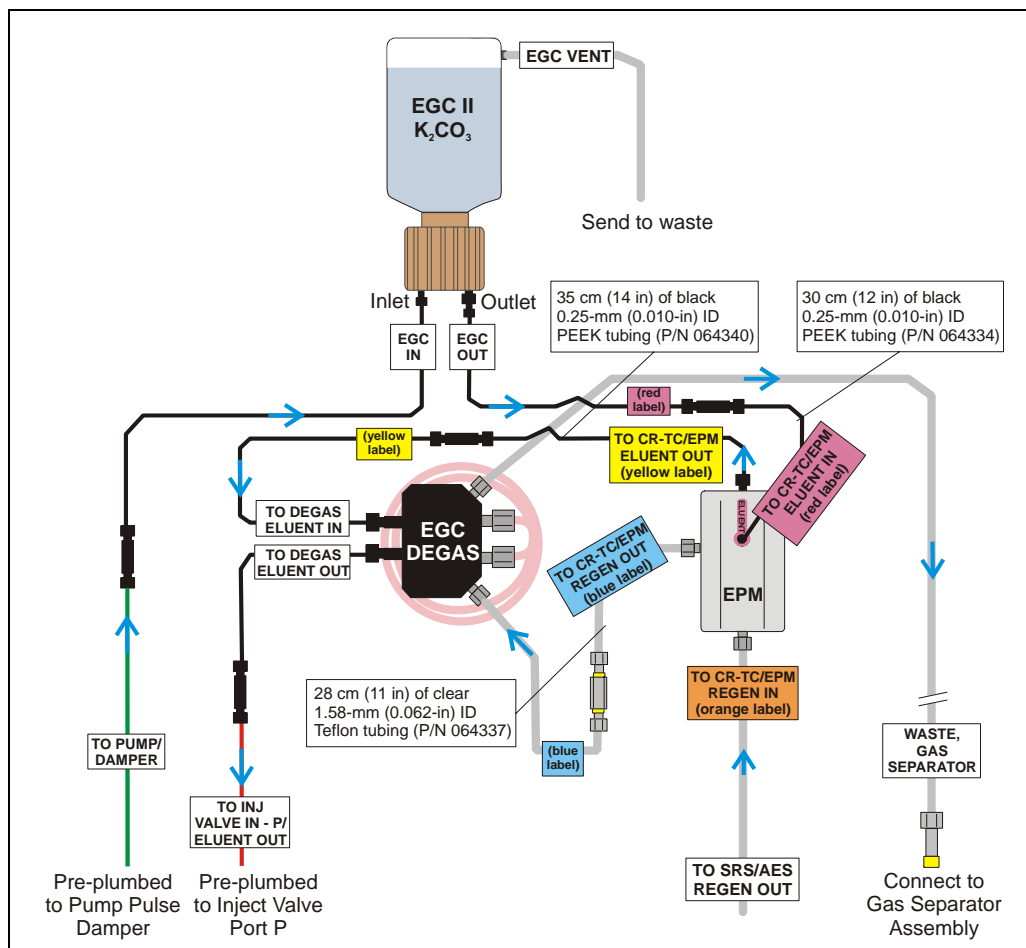

Figure 69. EluGen Cartridge and EPM Plumbing with Tubing Extensions
- Connect the **TO CR-TC/EPM ELUENT OUT** line (yellow label) to the **ELUENT OUT** port on the EPM (see Figure 69).